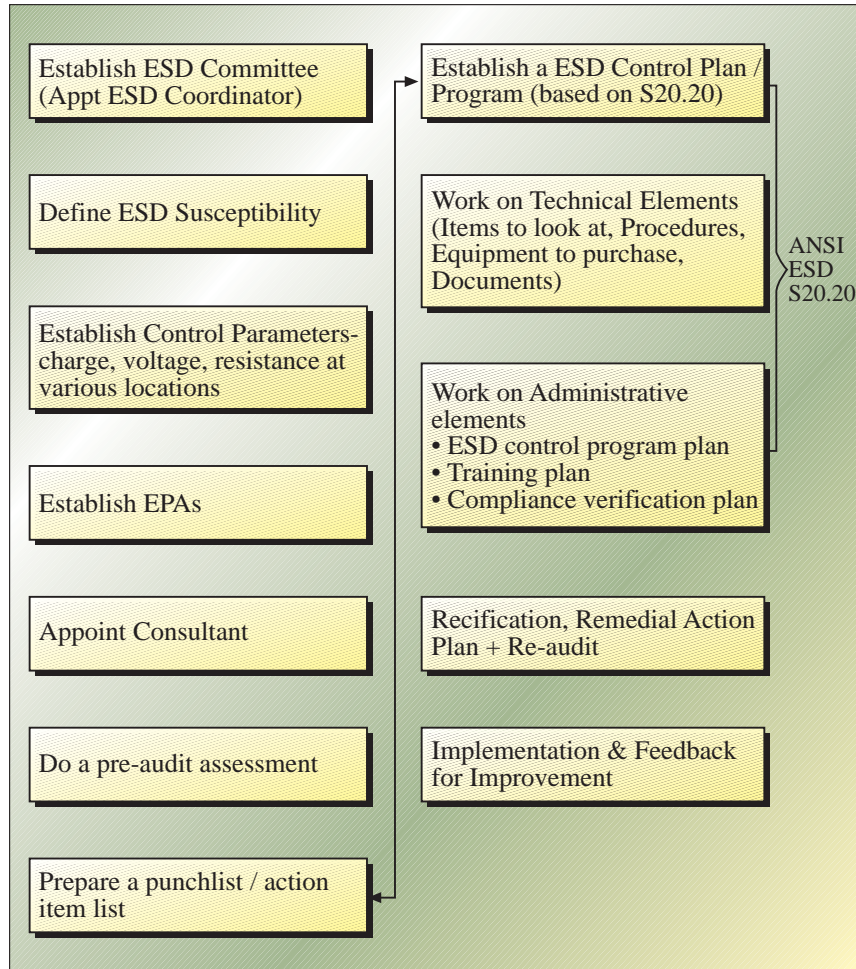

Figure 1: Outline of an ESD control program
**Fig. 1** with a brief explanation of each step involved in the following sub-sections.